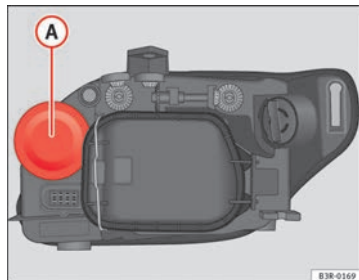

Fig. 191 Main beam headlights
- Pull up on the rubber cover **A** → fig. 191 to remove it.